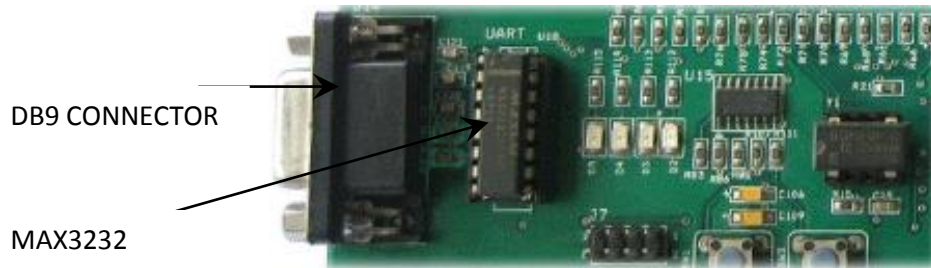

Figure 3.11 UART INTERFACE
- Rs-232(P1) is a female connector. The 2nd and 3rd pin of P1 is receiving and transmitting pin for transferring the data as shown in fig 3.11.